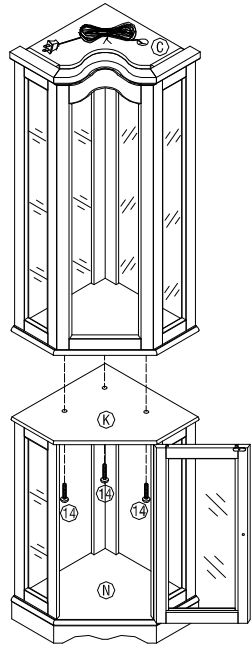

Figure 10
WITH AN ASSISTANT, PLACE UPPER CABINET ONTO LOWER CABINET, AND TIGHTEN LARGE MACHINE SCREWS (14) THROUGH PREDRILLED HOLES ON LOWER SHELF (K) INTO THREADED HOLES ON UNDERSIDE OF UPPER SHELF (F). AS SHOWN IN FIGURE 10.